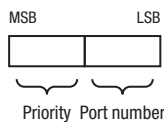

Figure 40: Port Identifier
- ▶ When multiple paths with the same root path costs lead from one bridge to the same bridge, the bridge further away from the root uses the port identifier of the other bridge as the last criterion (see figure 40). In the process, the bridge blocks the port that leads to the port with the numerically higher ID (a numerically higher ID is the logically worse one). When 2 ports have the same priority, the port with the higher port number has the numerically higher ID, which is logically the worse one.